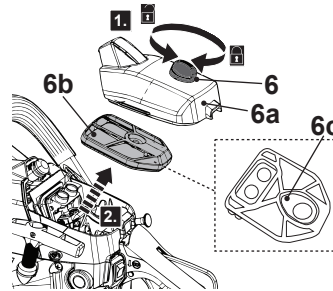

Fig. 52
1. Loosen the fixing screw (6) (Fig. 52, step 1) and remove the air filter cover (6a) to reach the air filter (6b).
2. Remove the air filter (6b) from the supporting bolt, and keep the rubber sealing (6c) in place to avoid loss (Fig. 52, step 2).
5. Re-attach the air filter cover (6a) and secure it with the fixing screw (6).